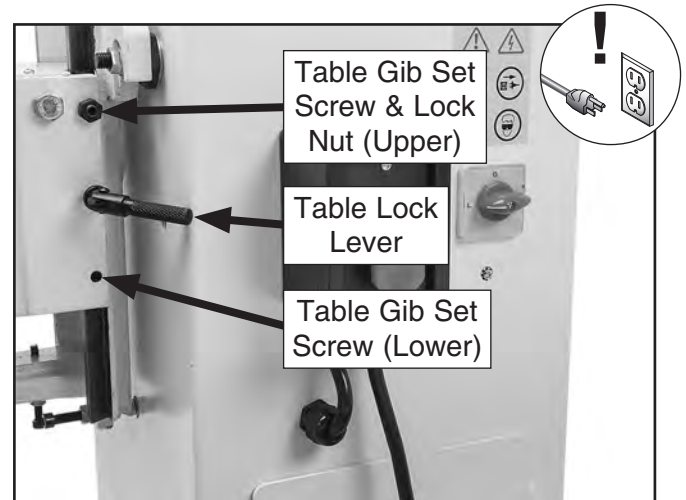

Figure 36. Table elevation gib adjustment locations.
The Model G0846 has a gib on the right side of the knee that applies pressure on the elevation way dovetail as the work table moves up and down. It is adjustable with two set screws. The upper set screw has a lock nut (see **Figure 36**).
2. Loosen table lock lever (see **Figure 36**).
3. Loosen lock nut on upper gib adjustment set screw (see **Figure 36**).